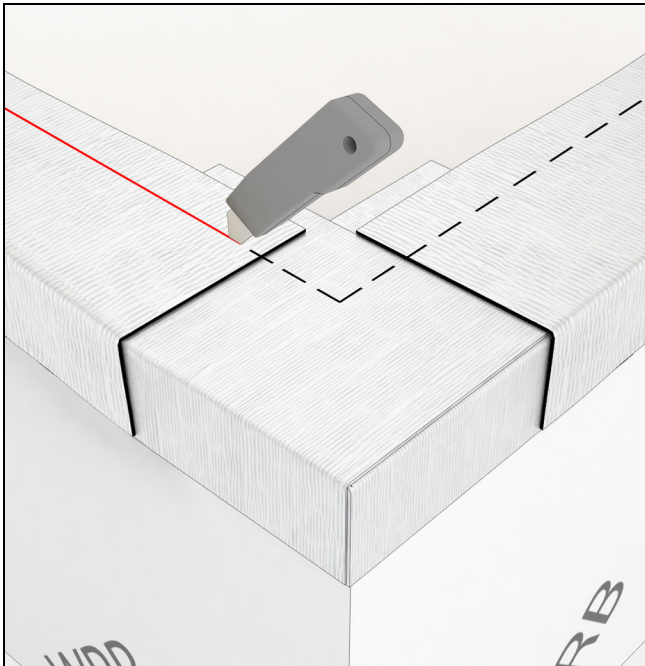

Figure 25
12. Where applicable, trim excess sill flashing material flush with the interior framing. See Figure 25.